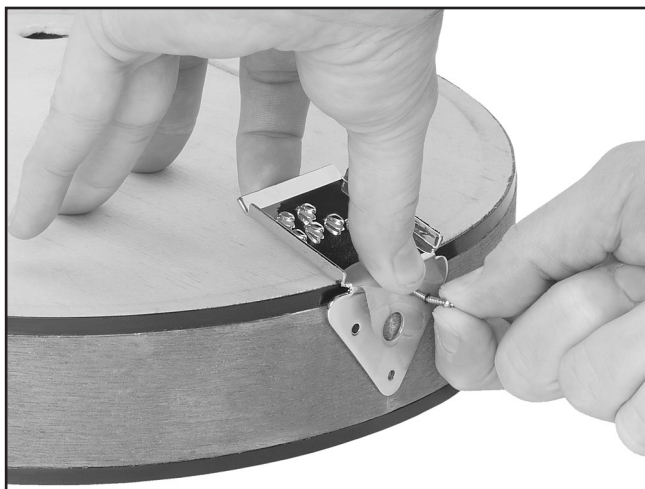

Figure 18. Marking the tailpiece mounting holes.
7. Use a screw or drill a hole with a $\frac{1}{16}$ " bit to mark the centers of the screw holes (**Figure 18**) and then set the tailpiece to the side.